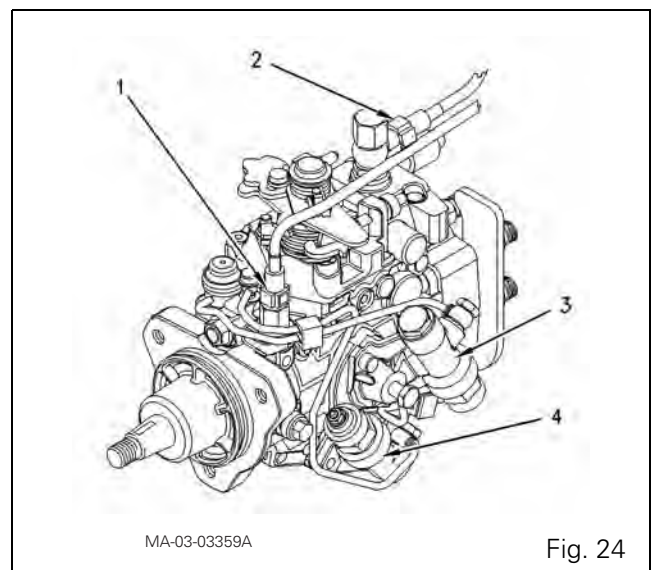

Fig. 24
113. Reconnect all electrical connectors to the pump (Fig. 24).
115. Refit the previously removed fuel channels (1) (2) (Fig. 24).